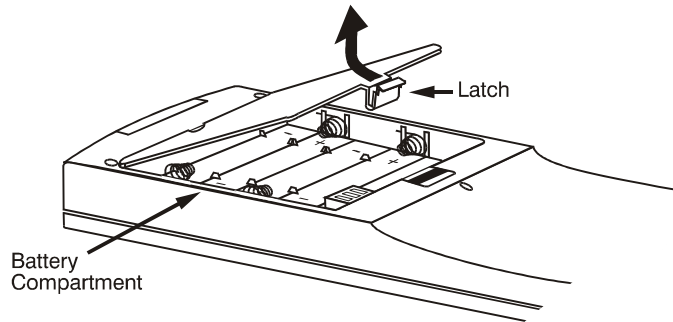

Figure 2-48 Opening the "Brick" rental staging – Standard IR remote
1. Unlatch and open the battery compartment on the back of the keypad as shown in *Figure 2-48*.